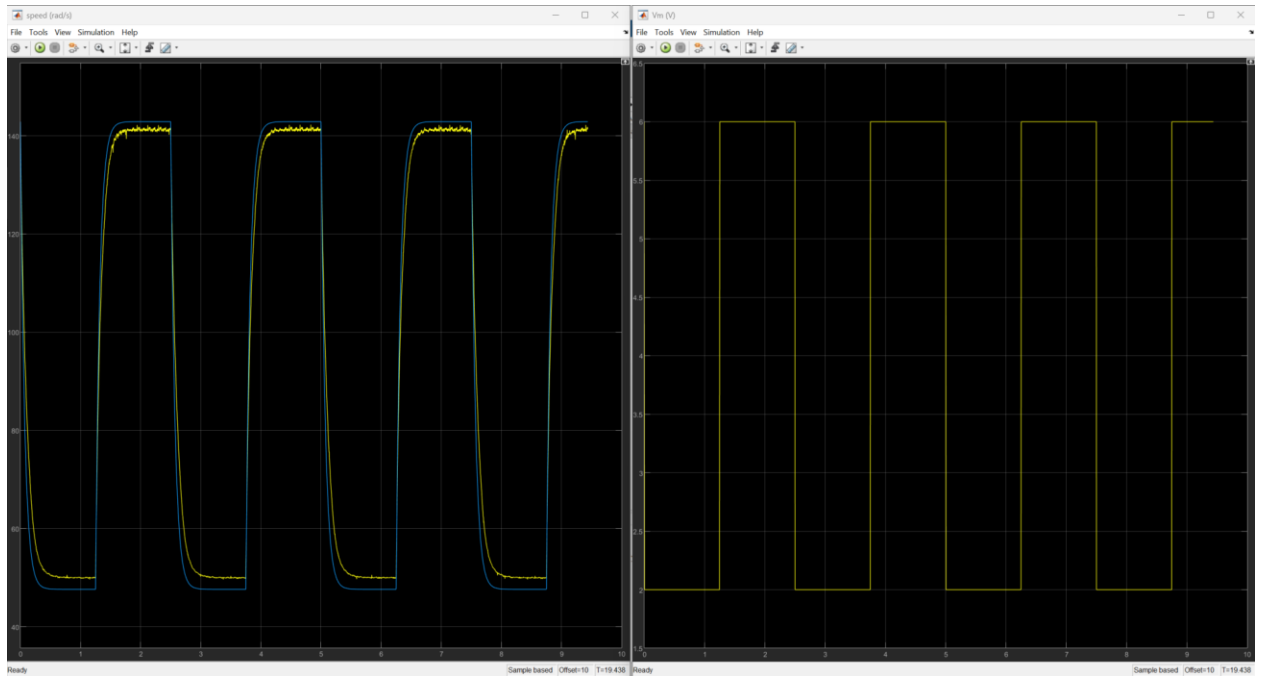

Figure 3: Speed scope of the Qube-Servo 3 Physical Vs. Model
8. Build and run the QUARC controller using the **Monitor & Tune**  button on the **Hardware** or **QUARC** tab. The speed (rad/s) scope response should be similar to Figure 3. Take a screenshot of the scope.